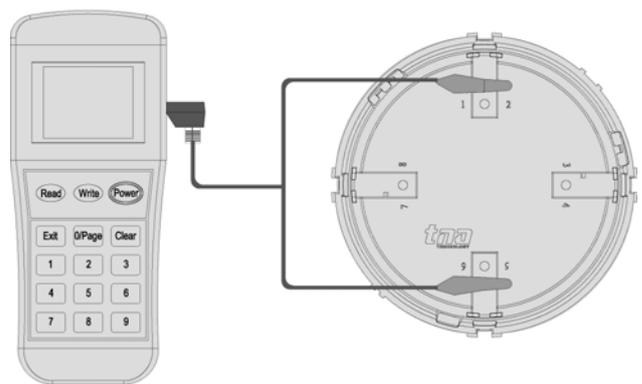
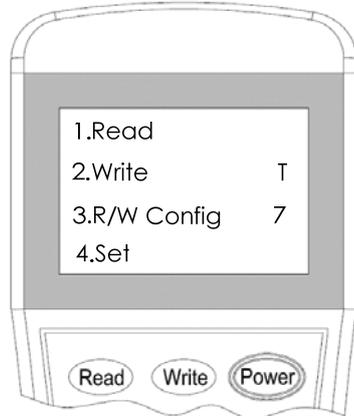

Fig.5 Connection of programming tool and Addressable Sounder Base
Fig.6 Main menu
1. Connect the programming cable to Z1 and Z2 terminals, as shown in Figure 5. Press **"Power"** to switch on the unit. The main menu after the boot as shown in Figure 6.
The encoding mode of the Addressable Sounder Base can be set by a programming tool. As shown in figure 11, the option corresponding to the number will be selected when a number is pressed at the interface shown in Figure 6. And then click the button "write". The word "Success" or "Fail" on the screen means that the success or not of the encoding mode setting, as shown in figure 12 and figure 13.